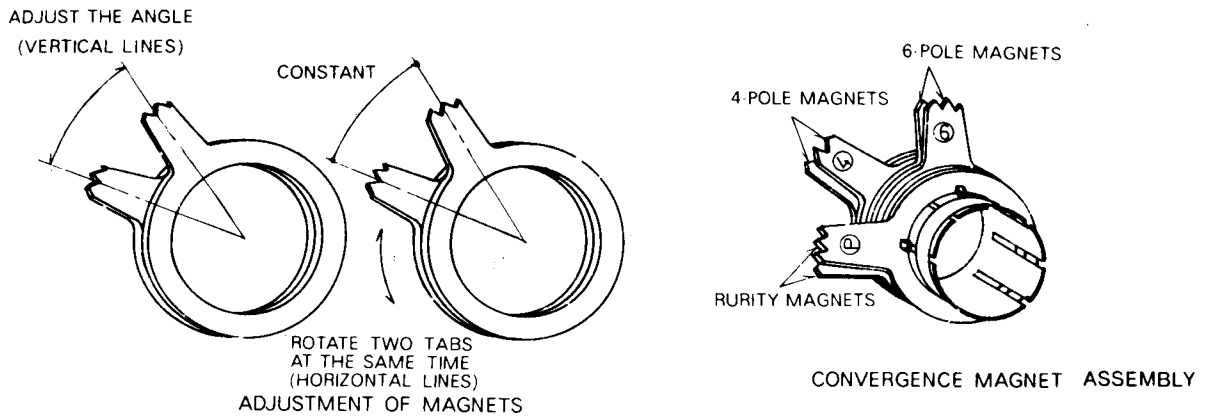

Fig. 4
- 6) Rotate and spread the tabs of the purity magnet (see figure 4) around the neck of the picture tube until the green belt is in the center of the screen. At the same time, center the raster vertically.
- 3) Adjust two tabs of the 4-pole magnets to change the angle between them (See figure 4) and superimpose RED and BLUE vertical lines in the center area of the picture screen. (See figure 5).